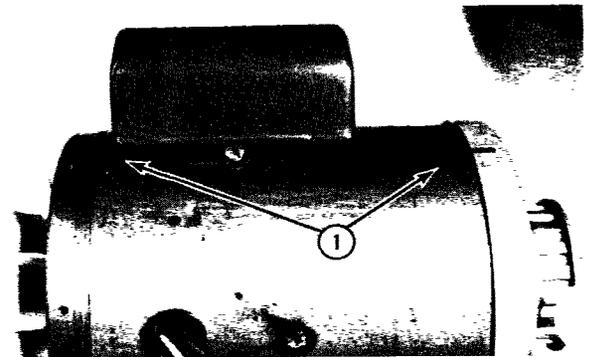

Fig. 2-12
- (3) Mark the two bearing brackets and the stator for alignment during reassembly. (1, Fig. 2-12).